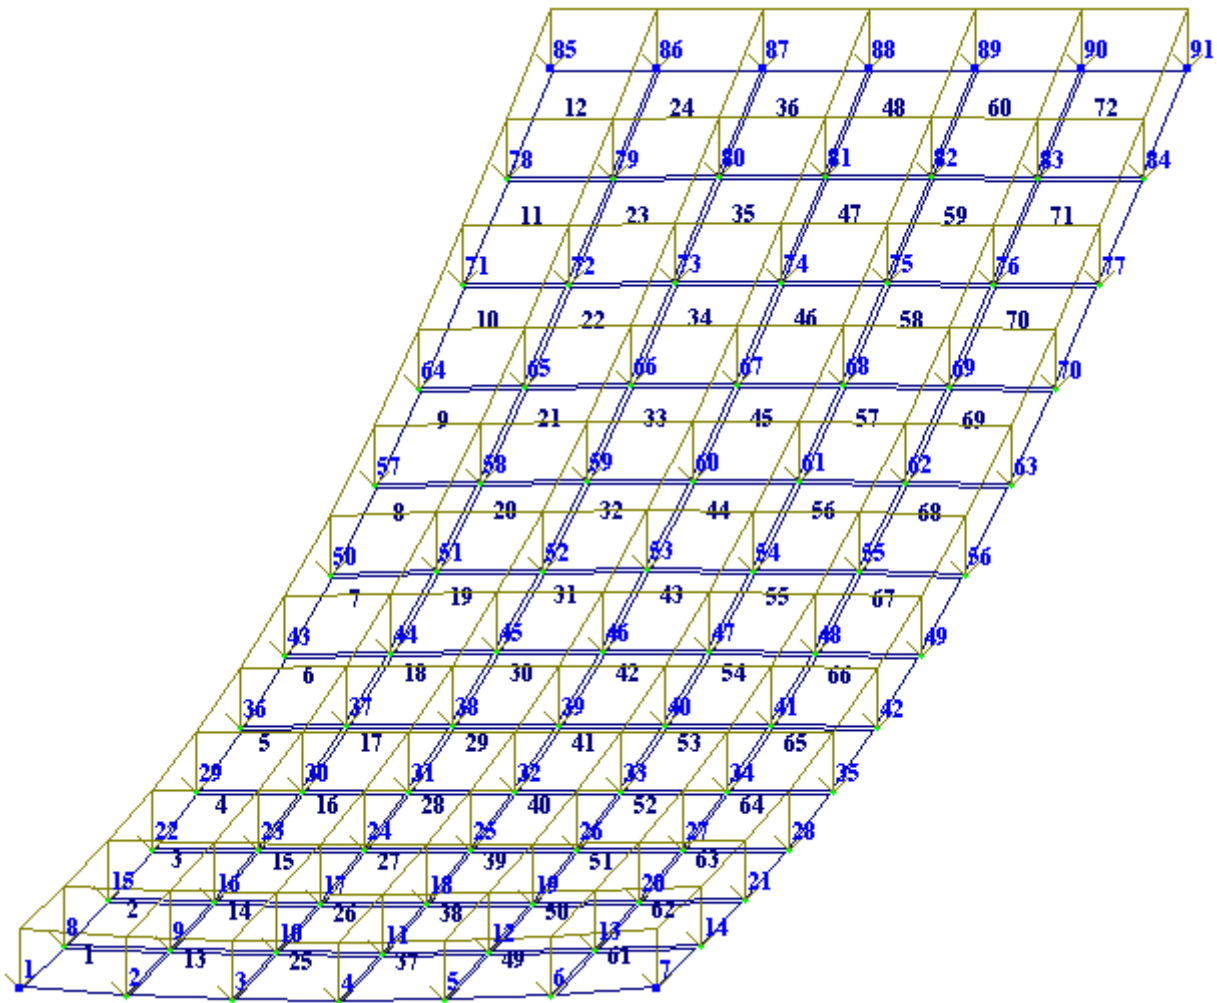

Figure 2.19 Design model with account of nodal displacements
- ⇒ In the mode of analysis results visualization, by default design model is presented with account of nodal displacements (see Fig.2.19). To display the model without nodal displacements, on the **Results** ribbon tab, on the **Deformations** panel, click **Initial model** button .